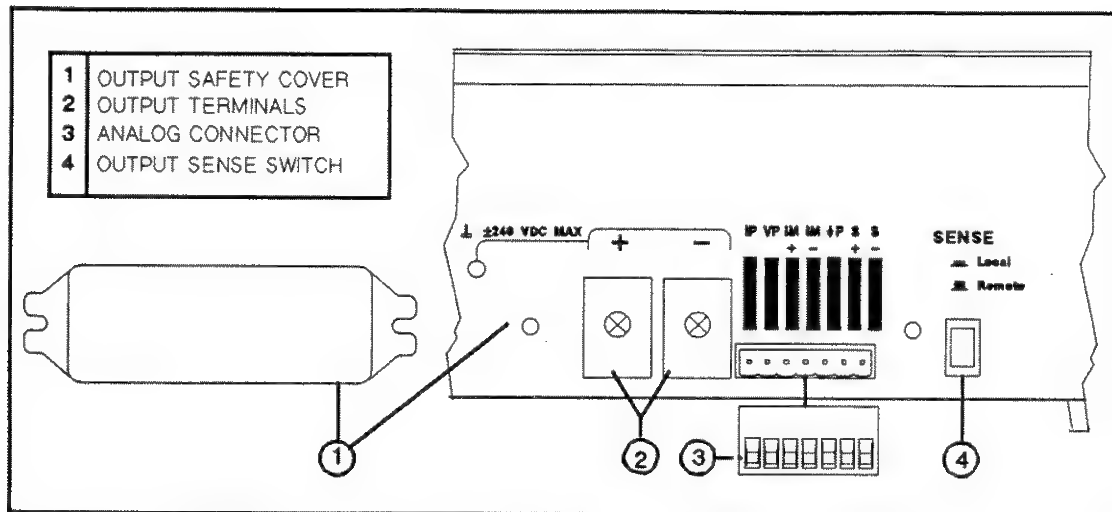
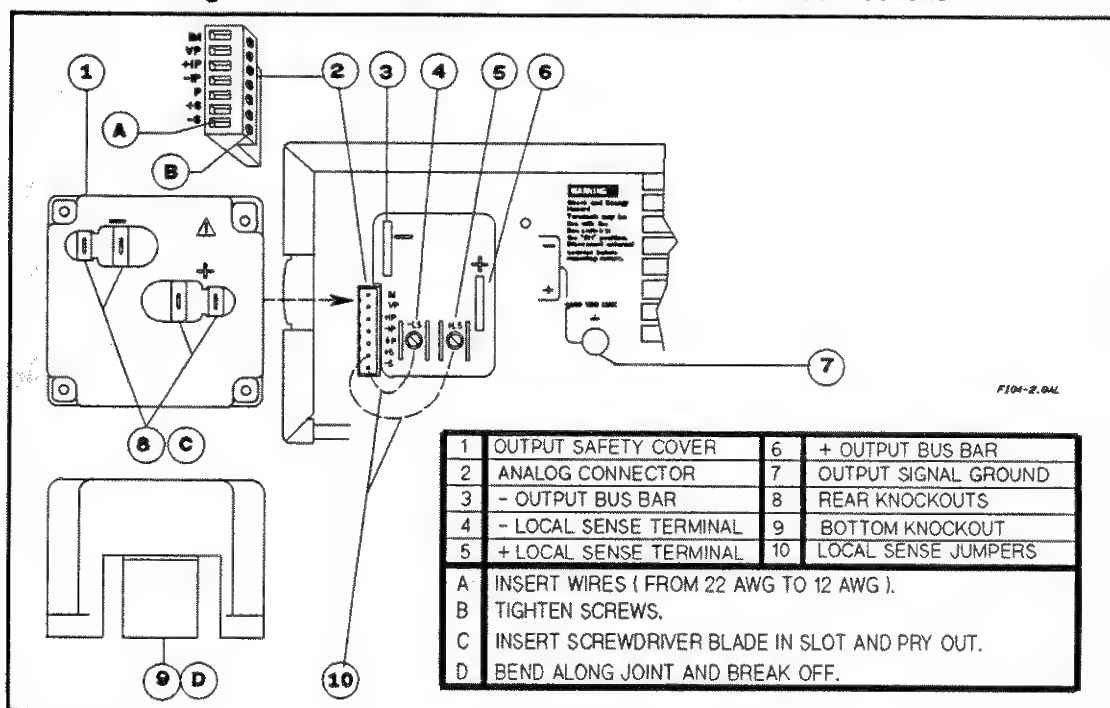

Figure 4-1. Series 654xA and 655xA Rear Panel Connections
Figure 4-2. Series 657xA Rear Panel Connections
The + and - load connections are made at the rear panel. Depending on the model (see Figure 4-1 or Figure 4-2), either terminals or screw-down bus bars (+ and -) connect the load to the power supply. The general procedure is as follows:
- make a suitable opening in the output safety cover by removing one or more cover knockouts (see Figure 4-2)
Local sensing is obtained by placing the SENSE switch (see Figure 4-1) in the Local position. The power supply is shipped with the switch in this position.
Remote sensing is obtained by placing the **SENSE** switch (see Figure 4-1) in the **Remote** position. The power supply is shipped with the switch in the **Local** position.